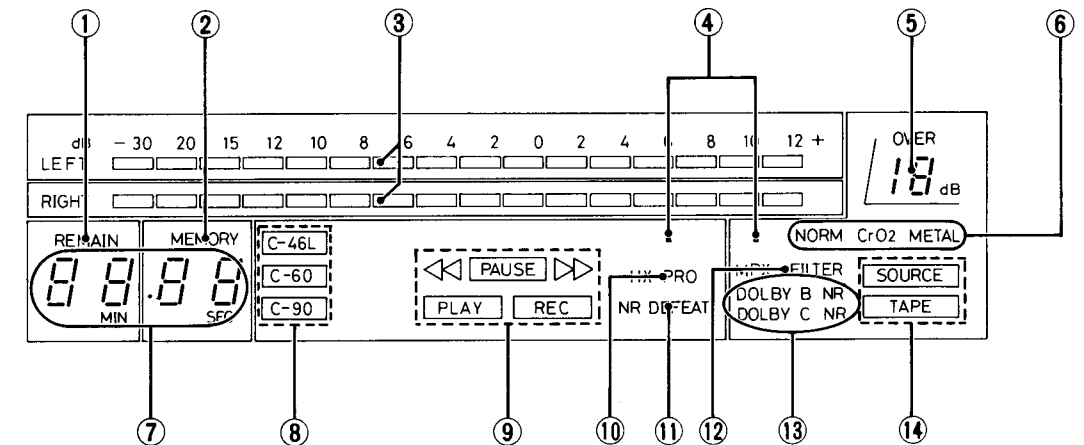

Fig. 4-2
- 4 MULTI MODE display** (See Fig. 4-2)
- ① Tape remaining time display
- ② MEMORY indicator
- ③ PEAK LEVEL METER
- ④ Recording guide indicator
- ⑤ Digital peak indicator
- ⑥ Tape indicator
- ⑦ Digital counter
- ⑧ Tape length indicator
- ⑨ Mechanism mode indicator
- ⑩ HX PRO indicator